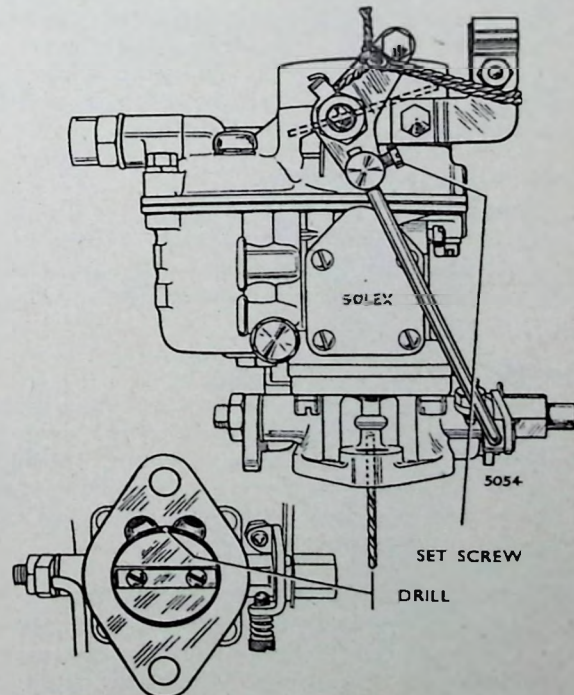

FIG. 7.—Method of making fast idle starting setting.
2. Tie the strangler levers in their full over position, as shown in Fig. 7 and slacken off the strangler lever connecting rod set screws.
3. Insert a drill shank of the diameter given on page 1 between the throttle edge and throttle bore, as shown in Fig. 7 and while holding the throttle in this position tighten the connecting rod set screw. This must be done on BOTH carburetters.